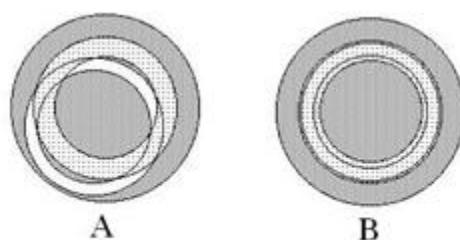

Figure 7
4. The image seen through the telescope should look similar to Figure 7 A. What you are seeing are the phase annulus rings superimposed on one another. While continuing to look through the telescope, turn slightly, first one then the other, each of the slider centering screws, located on the right side of the 10X annulus slider, until the two phase rings are concentric, as in Figure 7B. Now, alignment of this objective is complete. Continue, using the same procedure to center the other two phase contrast objectives. No subsequent adjustment of the phase plates should be required.